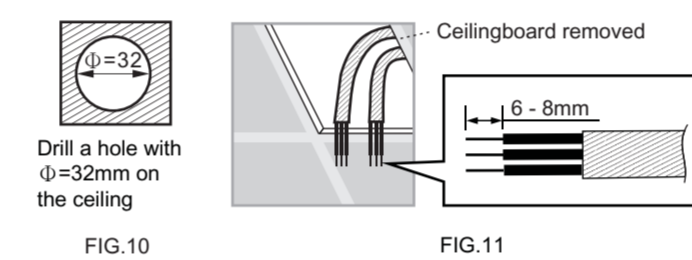
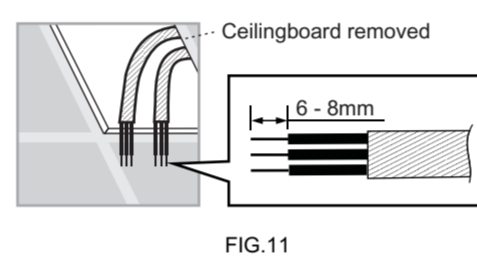

FIG.10
FIG.11
3.3.1 Drill a hole with diameter of 32mm on movable ceiling board for detector head installation (See FIG.10), then select a desired place on movable ceiling board and keep the power cable outside. Please strip off 6 - 8mm of cable sheathing for wiring (See FIG.11).